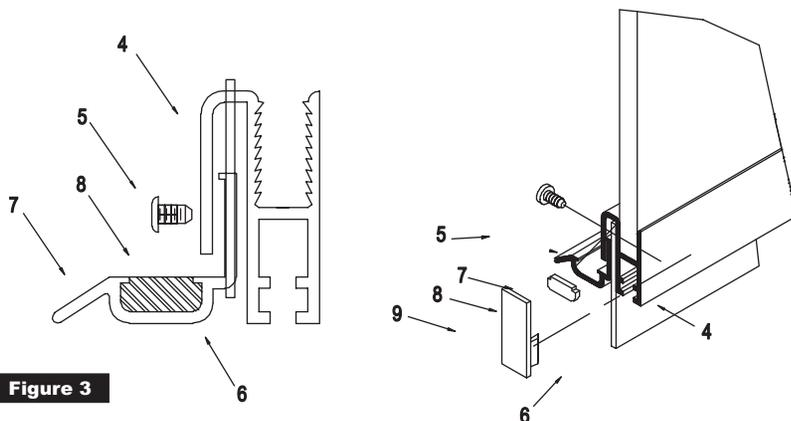

Figure 3
3. Apply bottom glazing vinyl (3) to the bottom of the glass. Hold bottom rail (4) in place against the bottom glazing channel and drive the bottom rail in place on the glass using the glazing block and a heavy steel hammer. Secure hinge rail to bottom rail using one #8x 1-1/4 FH SMS screw. Start three #6 x 1/4 SMS B screws (5) into the bottom rail. Insert the splash vinyl (6) and the drip trough (7) into the bottom rail. Splash vinyl should flush off with latch end of bottom rail and butt to offset of the hinge rail at other end. Flush-off drip trough with notchback on bottom rail at latch side. Push drip trough as far up as possible on latch side and as low as possible on hinge side and secure by tightening the three #6 x 1/4" SMS B screws (5).
4. Insert the drip plug (8) into the end of the drip trough at the handle side. Water should now drain back into the shower when the door is open. Insert the bottom end rail cap (9) in the end of the bottom rail (4) (see Figure 3).